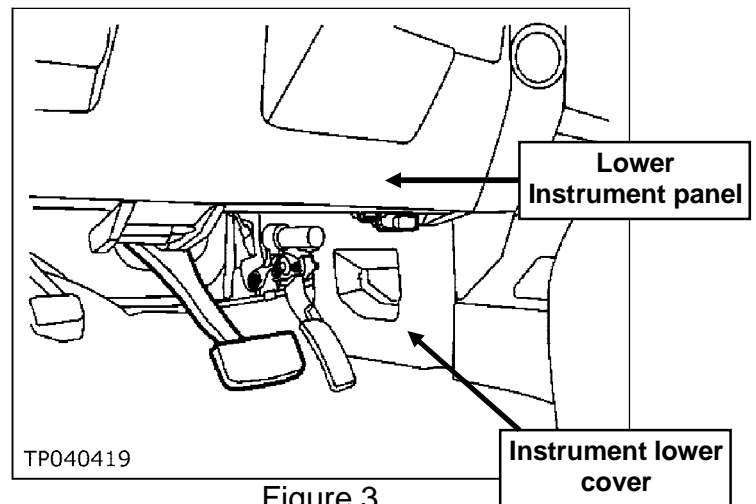

Figure 3
6. Remove the driver's side lower instrument panel (see Figure 3).
7. Pop off the instrument lower cover (see Figure 3).